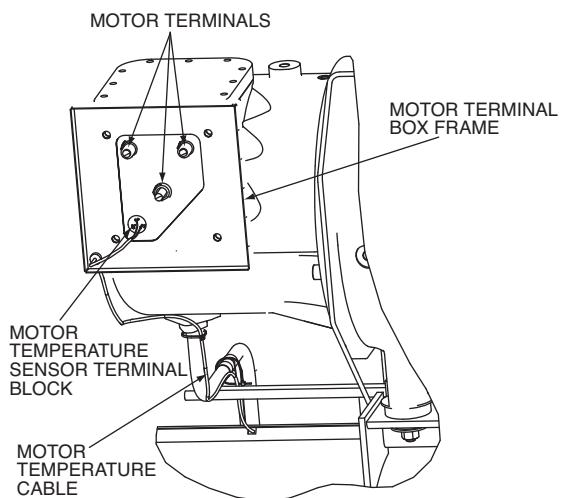

Fig. 24 — Motor Terminals (Units with Q, R Compressors Shown)
5. Disconnect the motor leads from the motor terminals (Fig. 24). Note the position of the motor terminal cable lugs so they can be reinstalled with sufficient clearance away from surrounding structure.
6. Remove the motor temperature sensor leads (Fig. 24), the motor ground lead, and the bolts that secure the VFD enclosure to the terminal box transition piece.